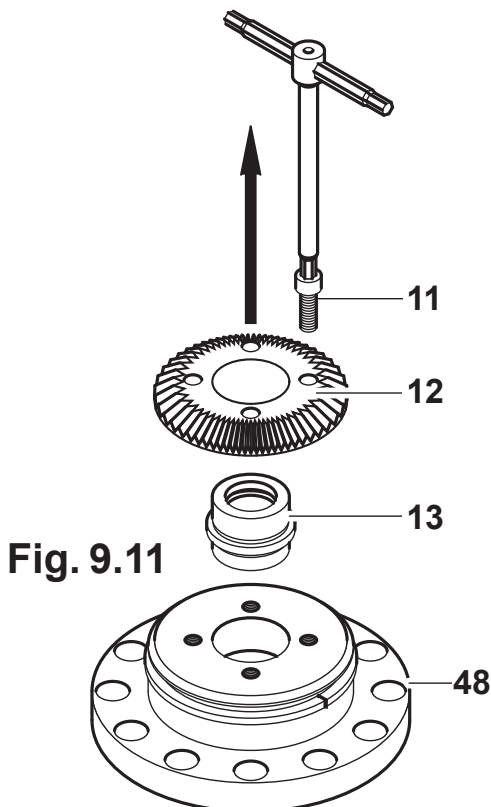

Fig. 9.11
9.3.9) Using a 4-mm hex spanner, undo and remove the screws pos.11, the pinion pos. 12 and the bush pos.13 from the flange pos.48 (Fig.9.11).